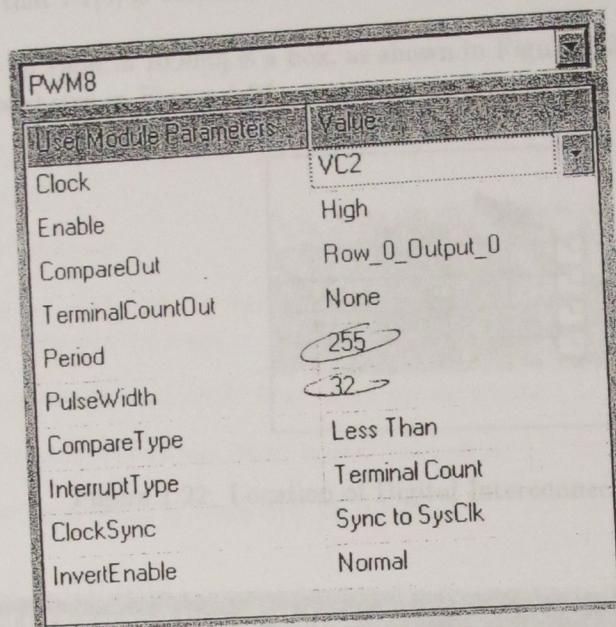

Figure 1.20: Parameters for PWM8.
- Set its parameters as shown Figure 1.20.